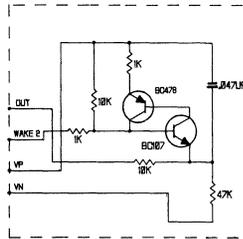

Fig.19 SAW TOOTH OSC
- Option 1 (Fig 19) Saw tooth generation independent of radio